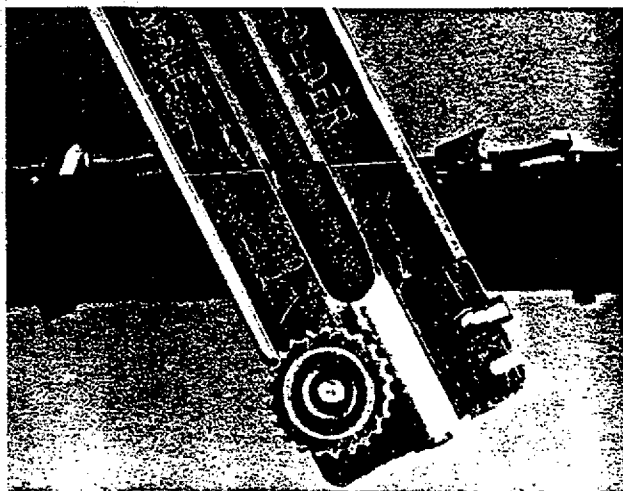

Fig. 24
3. Determine filing direction. File stroke should be from inside to outside of cutter or away from yourself. Figure 24. Keep reference marks on file guide parallel with chain and chain guide bar. This will keep cutter angle at 22° . This is the same angle contained on a new cutter. Figure 24. Use long smooth filing strokes.
4. Care should be taken never to file into the bottom of the top plate. Keep guide lines on file guide aligned with chain and guide bar (Figure 24).